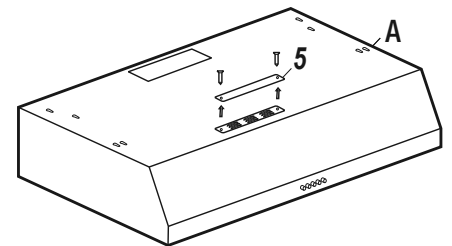

Fig. 12
- If you are venting indoors, unscrew the 2 screws holding cover (5) in place and remove the cover as per Fig. 12. **DO NOT REMOVE ANY OTHER VENTING HOLE COVER.**